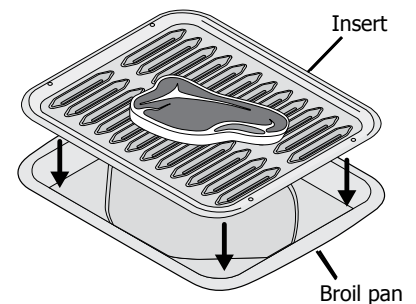

Fig. 4
3. Place the insert on the broiler pan (if equipped), then place the food on the insert. **DO NOT** use the broiler pan without the insert or cover the insert with aluminum foil (Fig. 4). The exposed fat could ignite.